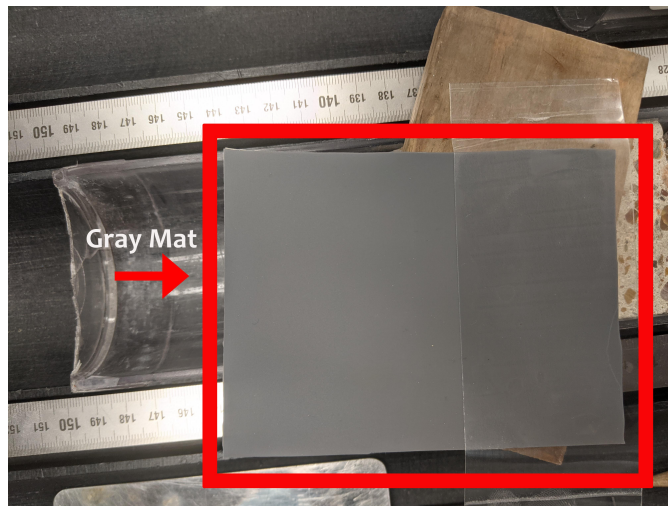

Figure 25. The Gray silicone mat being cleaned with tape.
1. Take the heat resistant gray silicone mat and wooden board from the SHIL calibration drawer. Clean off any dust with a piece of tape (*Figure 25*). Dust will cause unwanted artifacts in the image. The mat must be clean and flat on the track.